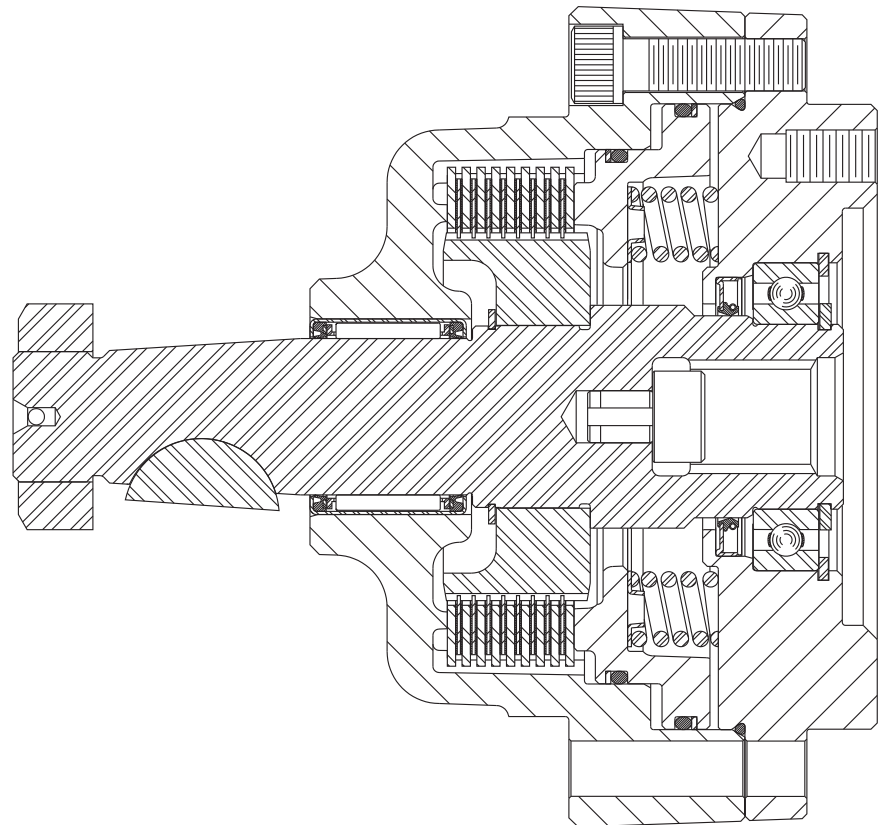

FIGURE 2
2. Press bearing (3) and oil seal (2), if removed, into housing (5) from wheel side until flush with housing. See Figure 2. **NOTE: Not all models use oil seal (2).**
3. Install outer spline (7) onto shaft (9) and secure with retaining ring (6) to form shaft assembly.
4. While supporting housing (5) install shaft assembly allowing shoulder on shaft (9) to rest on bearing (3).
5. Install stator disc (10) on spline shaft assembly and alternate with remaining rotor discs (11) and stator discs (10). **NOTE: See Table 1 for stacking arrangements.**
6. Install back-up rings (12 & 16) and o-rings (13 & 15) on piston (14). Be sure o-rings are flat and all twists removed. **NOTE: Be careful not to scratch or mar piston.**
7. Lubricate piston (14) with type fluid used in the system. Carefully push piston (14) into bore of housing (5) until piston bottoms on top of lining stack. **NOTE: Be careful to avoid contaminating friction surfaces with oil as this is a dry design brake.**
8. Install retainer (17) and springs (18) in piston (14). Be sure to install springs according to pattern and color noted during disassembly. Contact ZF Off-Highway Solutions Minnesota Inc. if you have questions regarding spring pattern.
9. If required, press oil seal (21) into cover (20). Seal lip must be facing motor side of cover. See Figure 2. **NOTE: Not all models use oil seal (21).**
10. Install o-ring (19) onto cover (20).
11. Position cover (20) on housing (5). Install either two or four cap screws (4) and tighten evenly to draw cover (20) to housing (5). Torque cap screws 115.3-122.0 N·m (85-90 ft·lb). **NOTE: Model 13-587-084 also uses washers and locknuts. Install washers and locknuts and torque the nuts 115.3-122.0 N·m (85-90 lb·ft).**